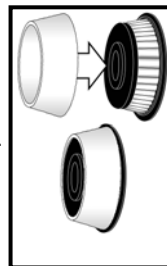

Fig. 10
1. Around the HEPA-Type filter there is a filter ring. This is washable in lukewarm water. (Fig. 10) To remove the filter ring, slide it off the HEPA-Type filter.